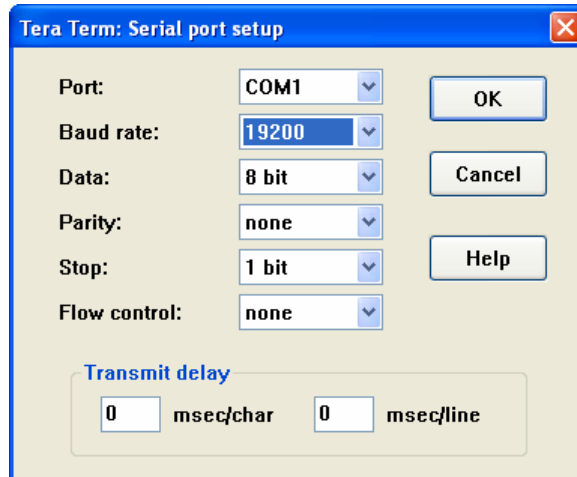

Figure 6-26: Serial Port Setup Screen
20. Select these serial port properties, then click **O**K (Figure 6-26).